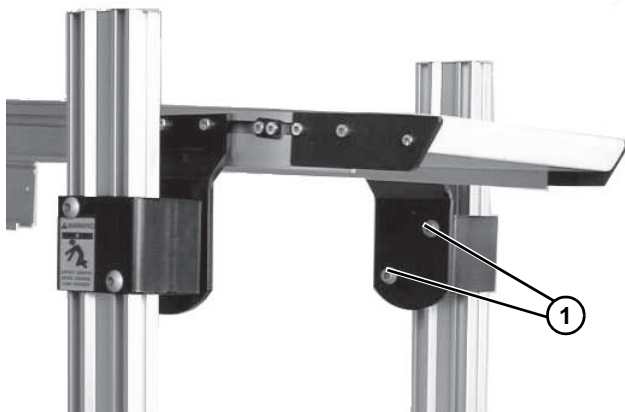

Figure 14
1. Loosen two flange socket head screws (**Figure 14, item 1**) on both sides of stand.
<p>Failure to secure screws (Figure 14, item 1) may cause conveyor sections to drop down, causing severe injury.</p> <p>TIGHTEN SCREWS (Figure 14, item 1) AFTER ADJUSTMENT.</p>
3. Secure flange socket screws (**Figure 14, item 1**) to 24 ft-lb (18 Nm).